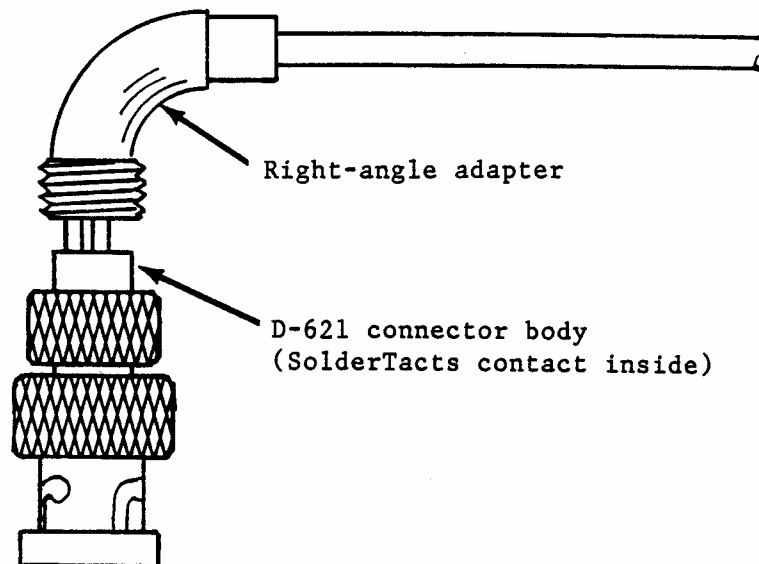

Figure 8-1. Contact Installed in D-621 Connector Body.
1. Insert the terminated SolderTact contact into the rear of the D-621 connector body until the retention clips lock the contact in place. (Figure 8-1)